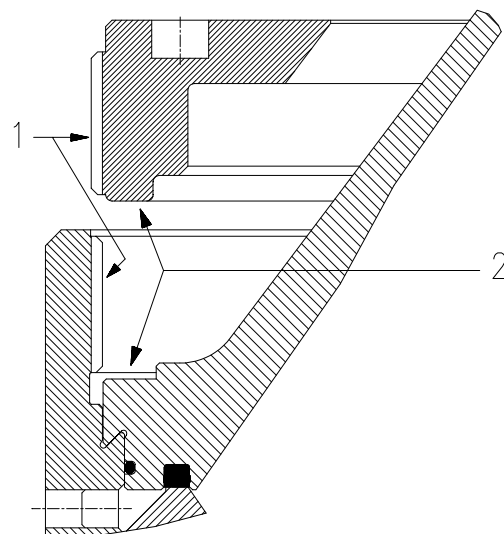

Figure 6.20
15) Smear antiscuff grease on threads of bowl body and big lock ring (Fig. 6.20 - part 1) and on contact surfaces between bowl hood and big lock ring (Fig. 6.20 - part 2).
- 16) By the spanner (09.150.0) screw the **big lock ring** (Fig. 6.20) that has left-handed thread. This operation must be performed with the disks stack compressed by the suitable spanner. It must be possible screw by hands the ring until the “0” mark is at least 1 cm. before the “0” mark of the bowl body (if this does not happen, it means that the assembly is not correct or the number of disks is wrong). Then fasten it down as much as possible by striking with mallet (09.030.0) the spanner handle. Now the “0” marks must be aligned. In case the bowl is not new and the parts start being worn, the “0” mark of the ring will go beyond the “0” mark of the bowl body. The distance between the two references must not exceed 3 cm.